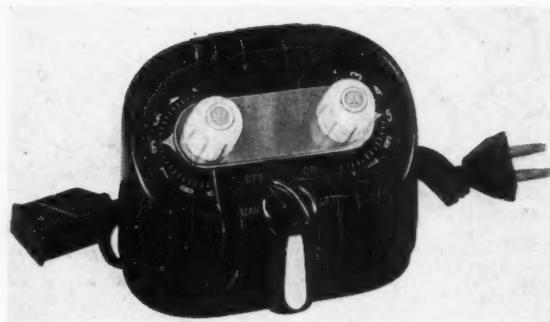

Fig. 4—Compact, beautifully housed timer will handle up to 15 amperes
A SELF-STARTING self-lubricating synchronous electric motor in a molded black bakelite case with an "off" switch and an "on" switch having silver contacts constitutes a new timer, see Fig. 4, which turns any electric device on and off or on or off at any time previously determined. It does both operations with one setting of the dials. Current-carrying capacity is 15 amperes, making it capable of handling various types of electric appliances. It also is suitable for laboratory apparatus where it enables full control of operations without attendance. Made by American Timer Corp., the unit is known as the Sentinel timer.
By referring to *Fig. 4*, the assumptions made in deriving a stress formula are seen to be (1) that the crankshaft is simply supported at the middle cross sections of the journals; (2) the throw is considered as a bar whose cross sectional dimension is small in comparison with the lengths a , h , and R ; (3) that the extension between points A and B produced by arbitrary moments M_1 and M_2 is due to the flexibility of the crankpin over a length h and the flexure of the webs by constant bending moments.
The crank which is shown in the T.D.C. position in *Fig. 4* is contracted $\Delta/2$ between the webs by the moments M_1 and M_2 when it is rotated into the